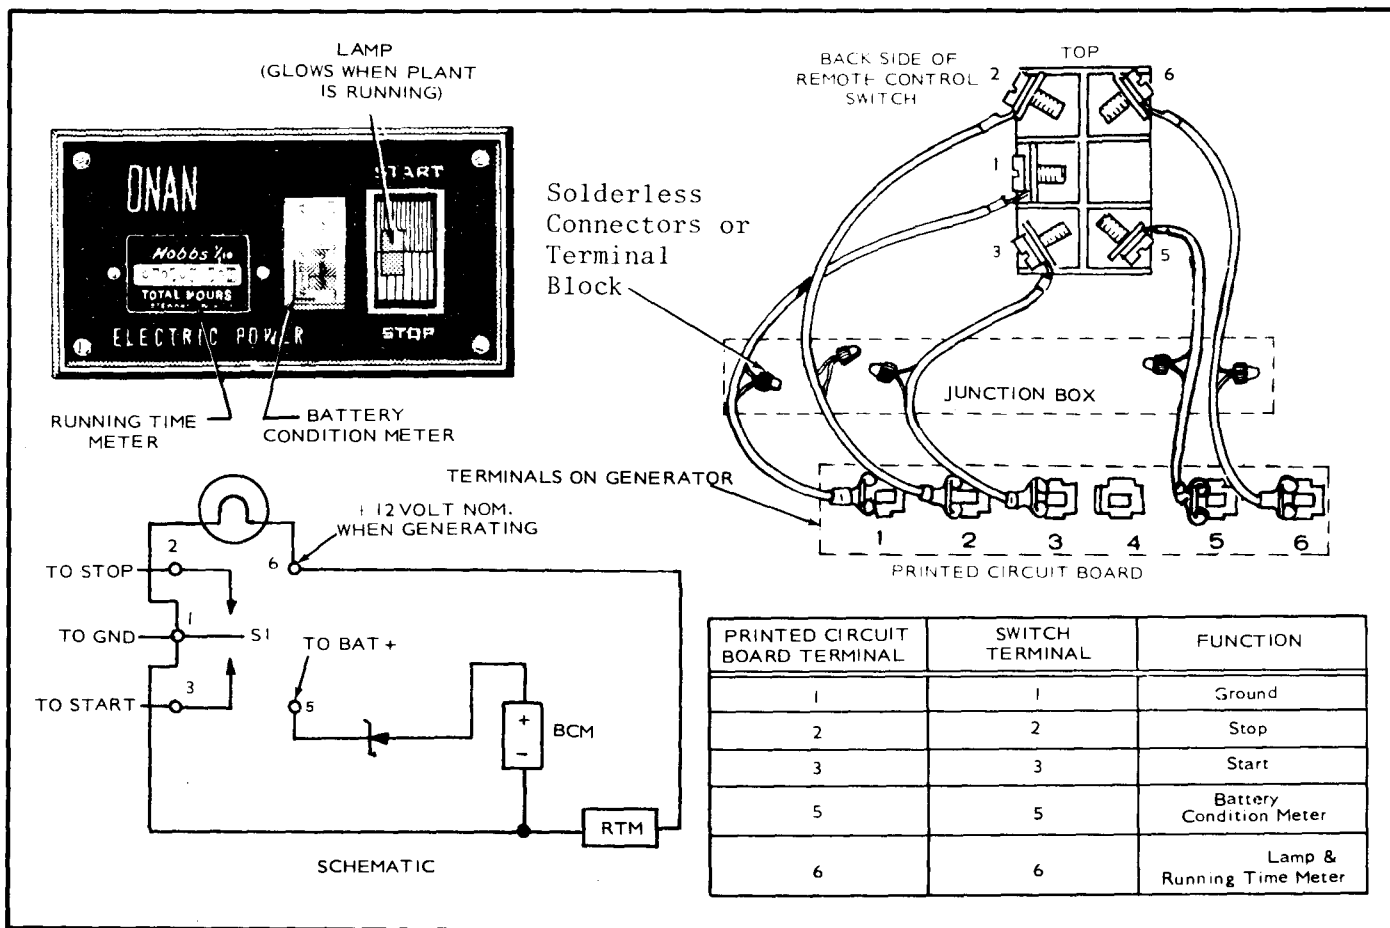

FIGURE 78. DELUXE REMOTE CONTROL (300-0986)
4. Make connections to remote control panel (Figure 78), then secure remote control panel with #5 wood screws.